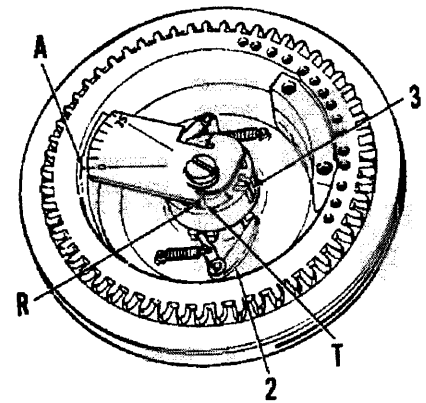

Fig. E3-14—Advancer sleeve movement may be checked with special tool. Refer to text for inspection procedure.
Flywheel must be removed to adjust ignition timing. Two special tools, available from Tecumseh Products Company, should be used to properly tune ignition. Full movement range of advancer mechanism must be checked first. Position special tool, Tecumseh part number 670243, in trigger sleeve assembly in flywheel. Tabs (T—Fig. E3-14) of tool should engage ribs (R) in trigger sleeve. Place a pencil mark (A) on flywheel adjacent to "0" degree mark on tool. Grasp advancer mechanism flyweights (2) and pull them out fully against their stop. Do not use tool to